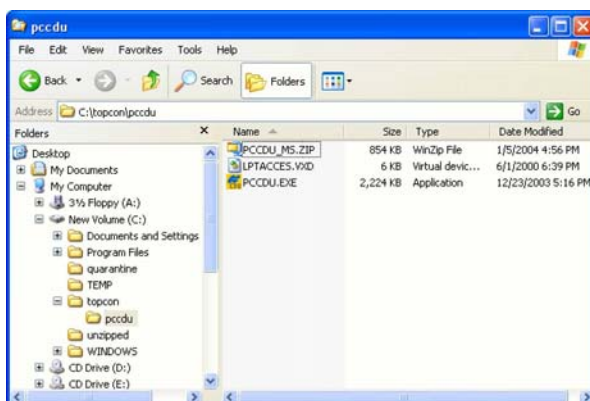

Figure 2-1. Extract Program and Create Shortcut
3. Extract the **PCCDU.EXE** and associated \*.dll file to the **PC-CDU** folder ( Figure 2-1 ).
4. Optionally, create a shortcut on the computer's desktop for quick access to **PC-CDU** ( Figure 2-1 ).